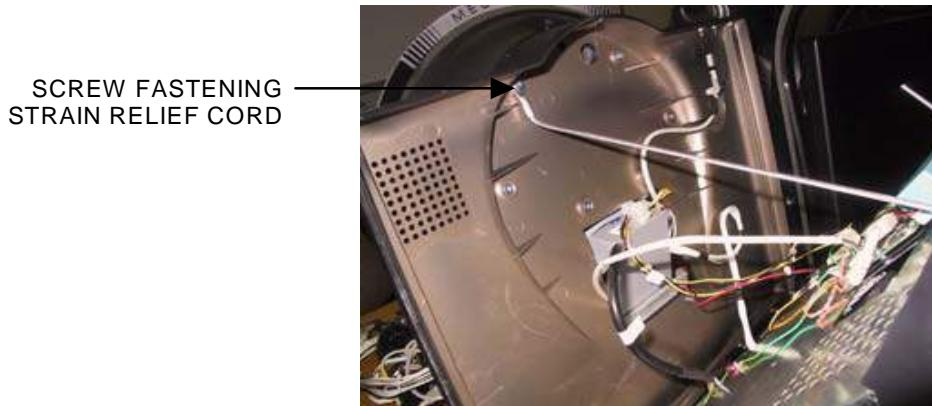

FIGURE 4 - HALFWAY-OPEN MONITOR ASSEMBLY
6. Open the monitor assembly halfway and remove the screw fastening the strain relief cord. See Figure 4. Open the assembly all the way and rest it on a support.